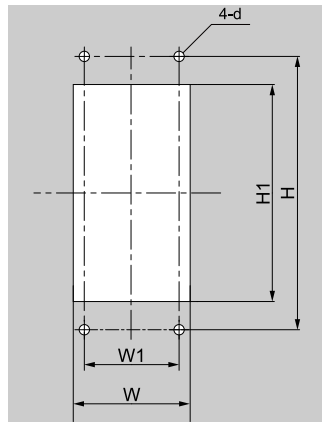

Figure 2.15 Panel Cut-Out Dimensions to Attach Inside Control Panel
1. Use the dimensions in Figure 2.15 and Table 2.10 to cut an opening in the control panel for the keypad.